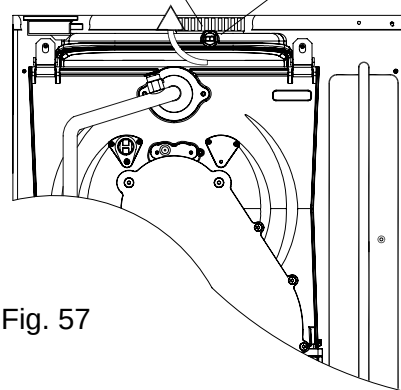

Fig. 57
**8.23 TO REMOVE/REPLACE FLUE TEMPERATURE SENSOR (Fig. 57).**